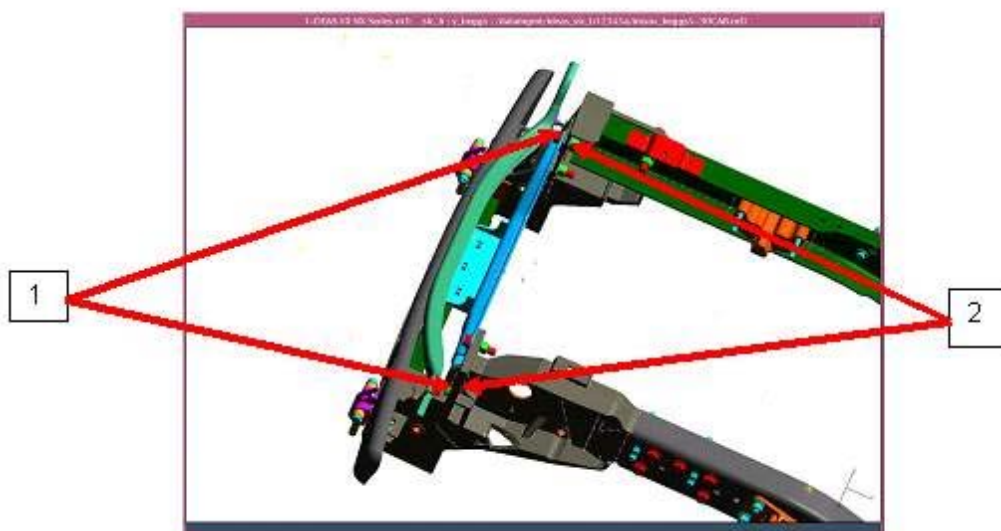

Figure 50 Snubber Detail (Hood Removed for Clarity)
- c. Verify that the two front snubbers (Item 1, Figure 50) are impacting on the mega brackets (Item 2, Figure 50) when hood is closed.